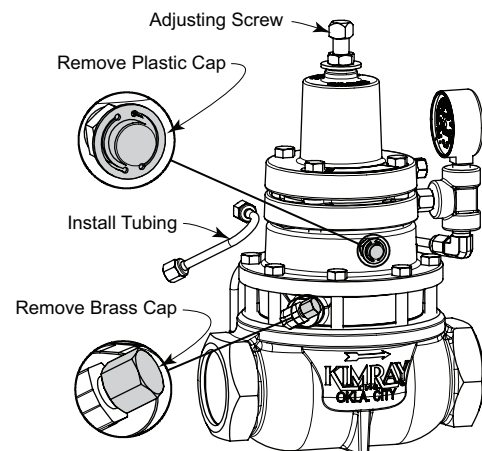

Figure 2
- Remove the two safety caps placed on the tubing fittings. The cap on the upper fitting is blue plastic; the cap on the lower fitting is brass. Save the cap in the event the regulator needs to be removed from service for repairs. See figure 2.